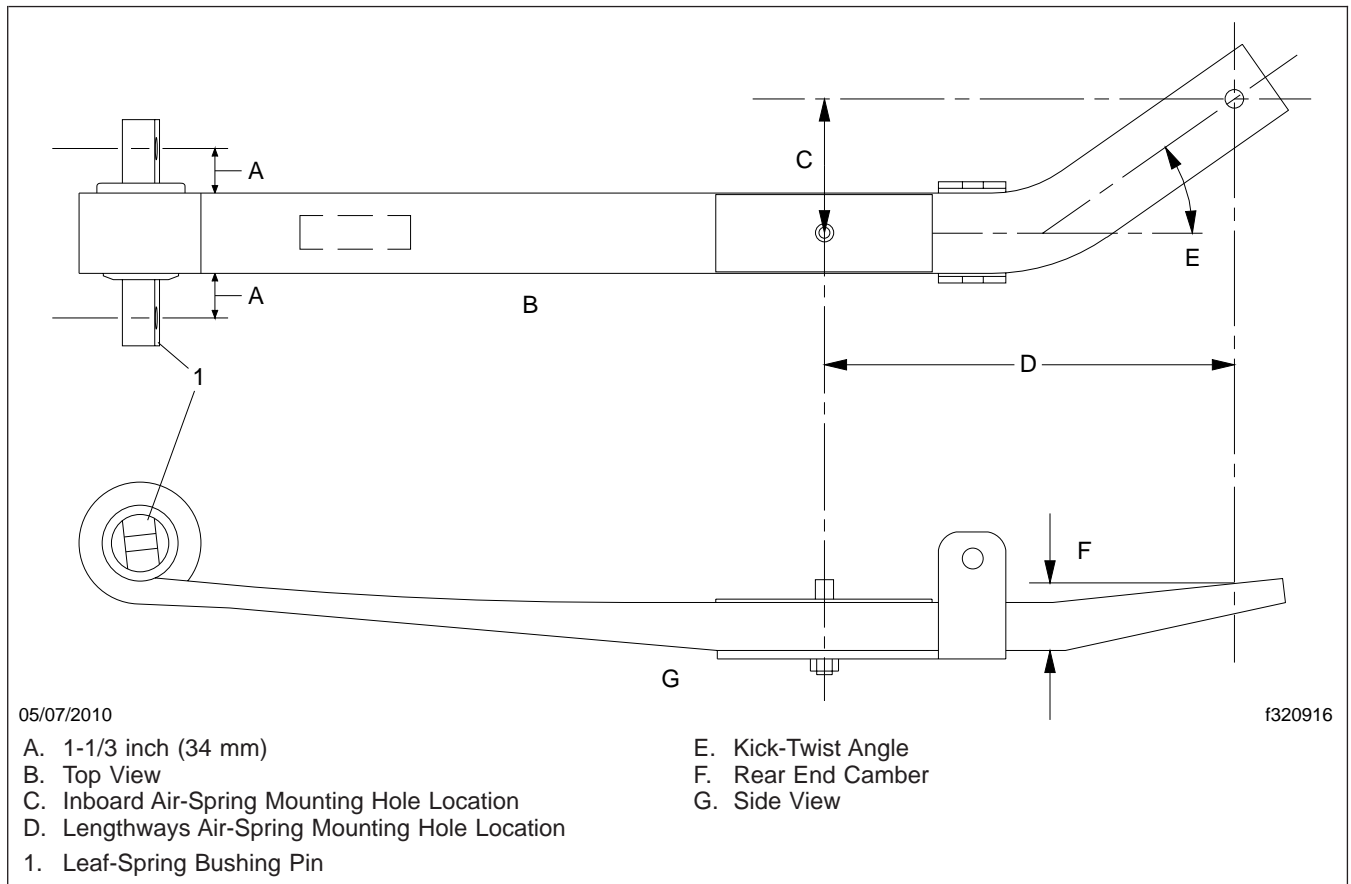

Fig. 3, AirLiner Leaf Spring Critical Dimensions
4. Check the AirLiner leaf-spring bushing pins for wear or walk-out (off-center placement). The centerlines of the holes in the pins should be 1-1/3 inch (34 mm) from each outside edge of the leaf spring. See Fig. 3. Correct as necessary, following the instructions in the section titled Freightliner Airliner Rear Suspension, in **Group 32**, of the applicable workshop/service manual.